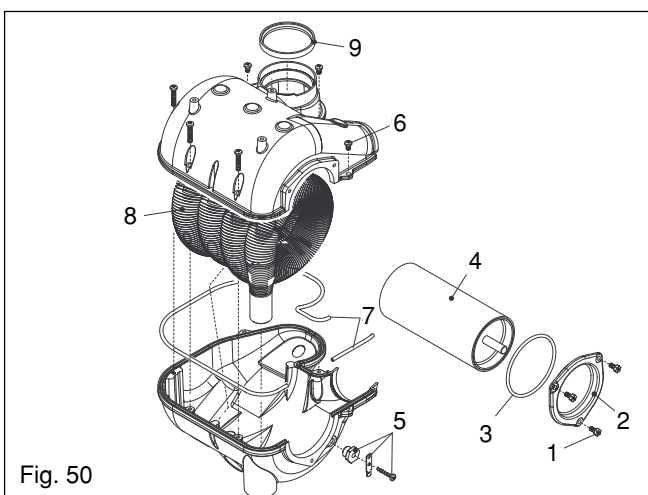

Fig. 50
6.28A DISMANTLING THE LATENT HEAT COLLECTOR (see fig. 50)